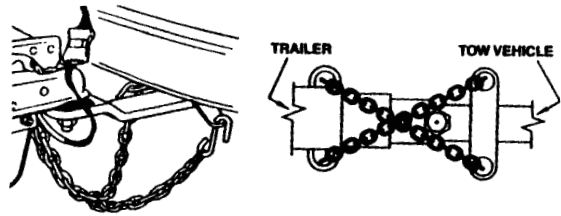

Figure R13: Crossing the Safety Chains
9. Safety chains are provided and must be used. Cross the safety chains under the coupling and attach to the towing vehicle's frame or bumper. See Figure R13. Always allow slack for turns. Four Winns provides securement clips for the safety chain hooks and recommends you use them. Regulations vary from state to state. Please check the local laws in your state.